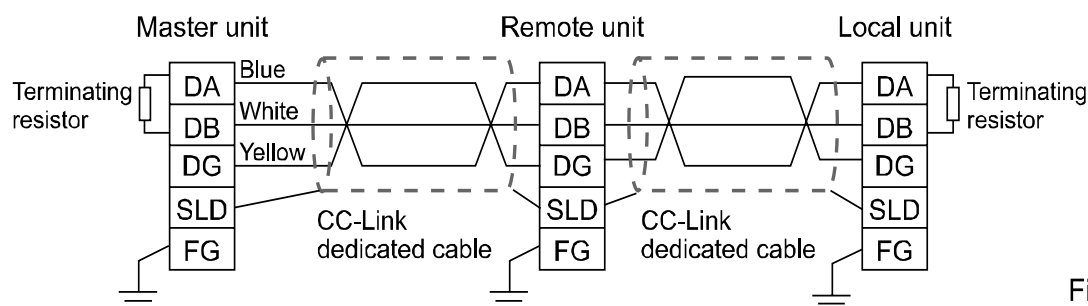

Fig.2
- (2) Make sure to connect a "Terminating resistor" between "DA" and "DB" of the unit at both ends of CC-Link system. (Refer to Fig.2) For CC-Link detected cable, use the cable with same specifications as it. If mixed, the normal data transmission is not guaranteed.